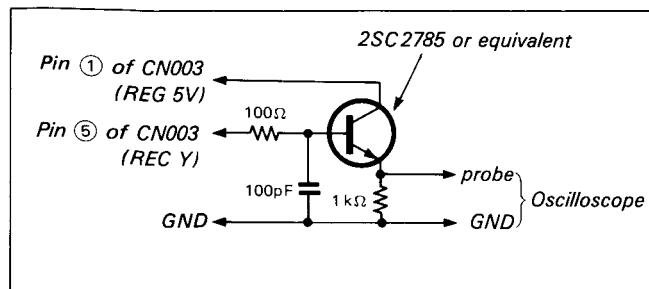

Fig. 8-28.
Note 2: Use the low-pass filter shown in Fig. 8-28.
Note 1: Use the low-pass filter shown in Fig. 8-28.
- Note:** 1. Use the low-pass filter shown in Fig. 8-28.